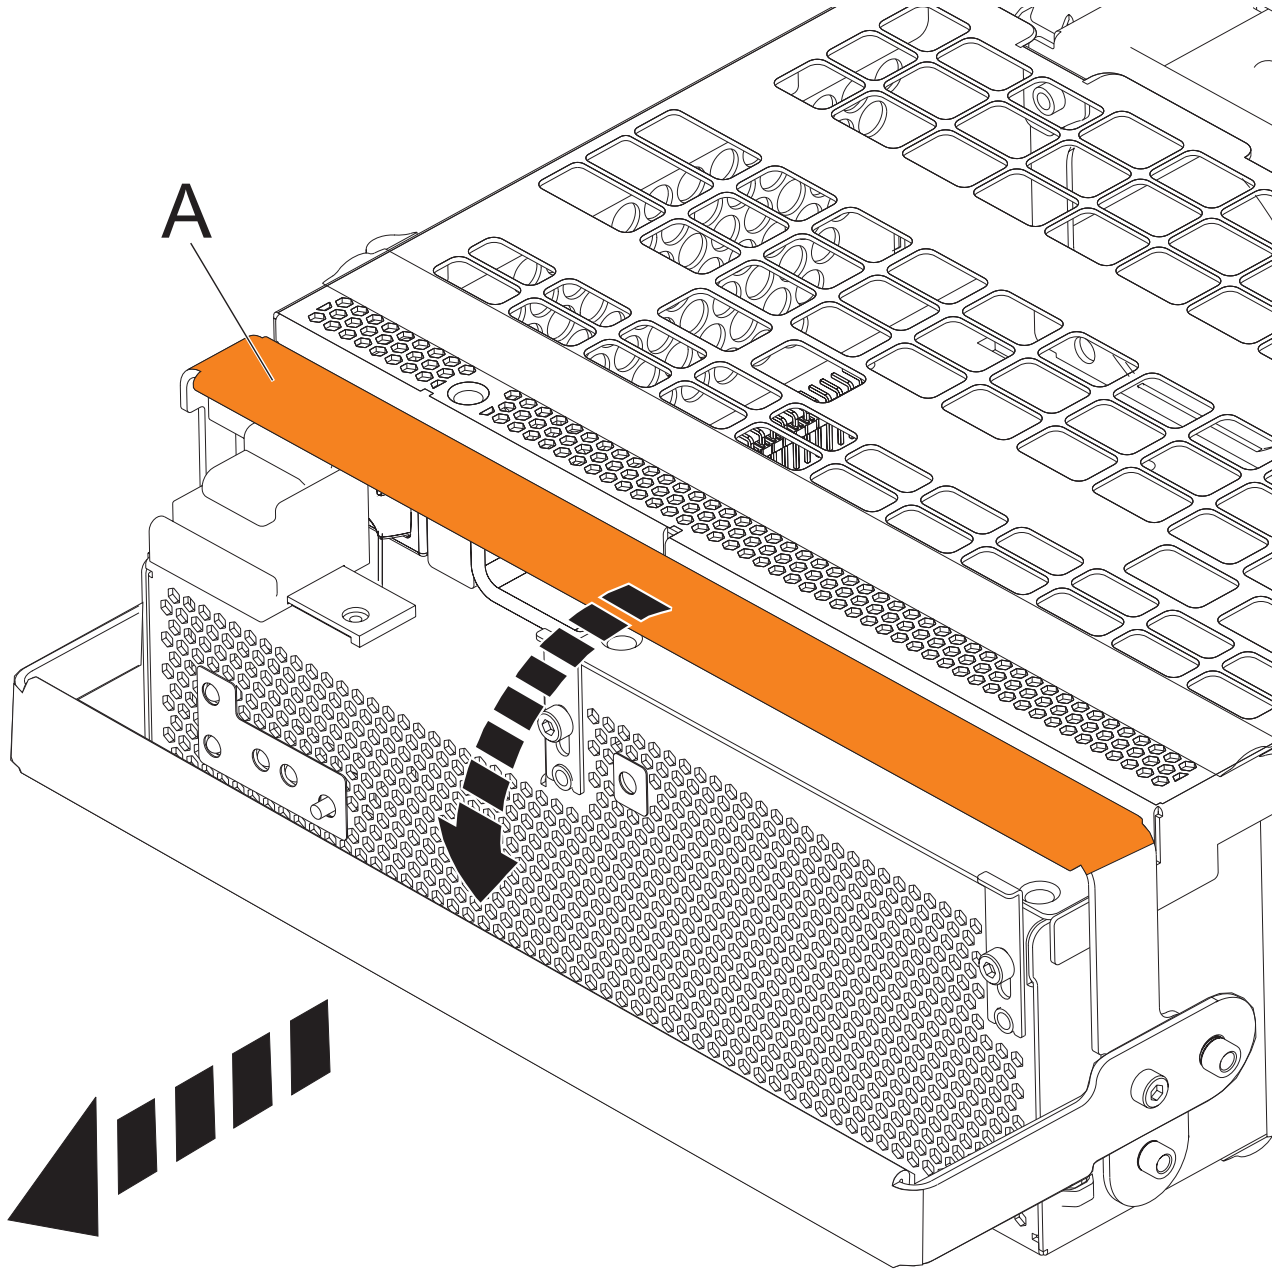

Figure 107. Remove the offline converter assemblies
- a. Pull the OCA handle (A) all the way down in the direction shown to unseat the OCA. See Figure 107 on page 111.